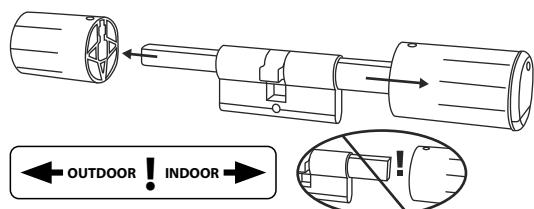

Fig. 3
- ③ Pull off the knob on the outer side completely and pull the knob on the inner side as far back as possible (Fig. 3).